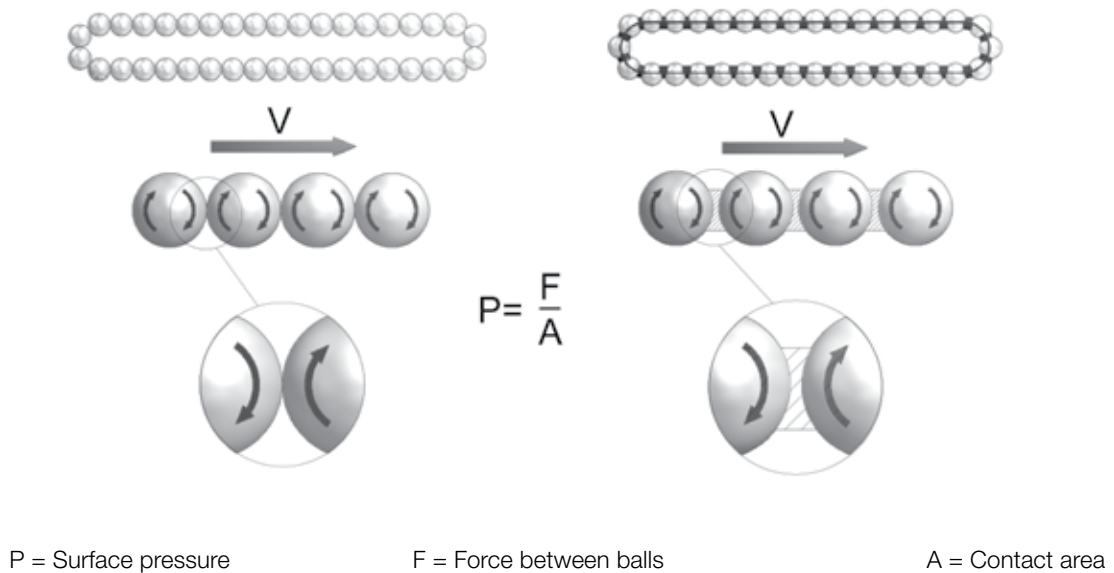
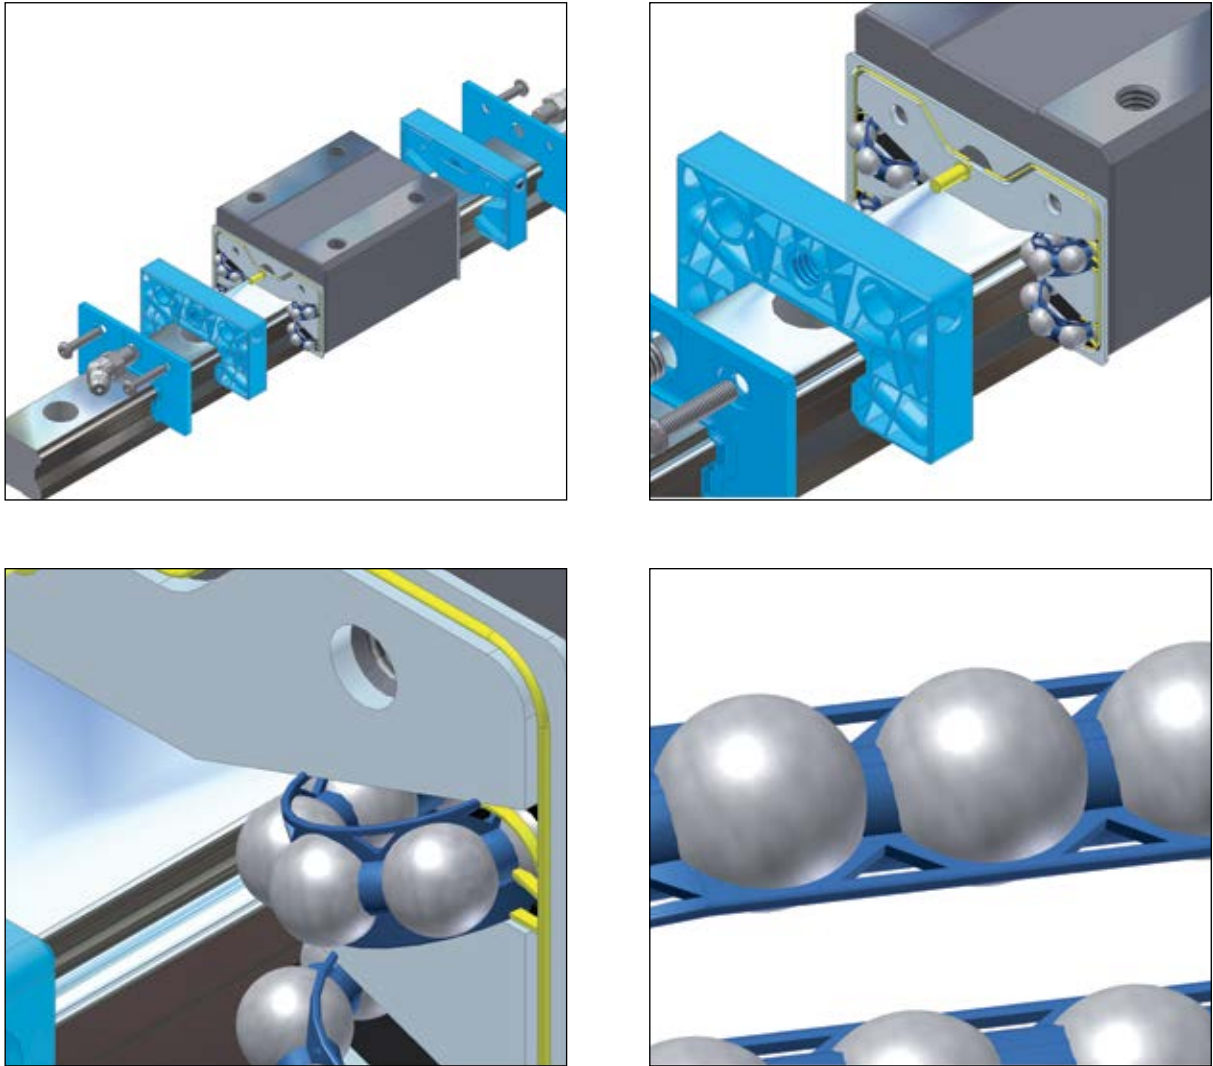

Figure 1.6 Schematic view of the contact surfaces
Figure 1.7 Linear guides with ball chains
The rotating balls in conventional linear guides have point contact between each other (Figure 1.6). The rotation speed at the contact point is double that of the speed of the balls. The contact area (A) is so small that the surface pressure (P) tends towards infinity. This leads to heating and wear of the balls and the linear guide system. The chain in linear guides with ball chains has the function of a cage. Contact between the balls is prevented (Figure 1.6). The ball and the chain also have a relatively large contact area (A) that significantly reduces the surface pressure (P). The rotation speeds at the contact surfaces of ball and chain correspond. The ball chain is further used to transport the lubricant and to create a lubrication film on the balls. The design of the carriage allows effective supply with lubricant from the lubricant connection to the circulation areas of the ball chains (Figure 1.7).